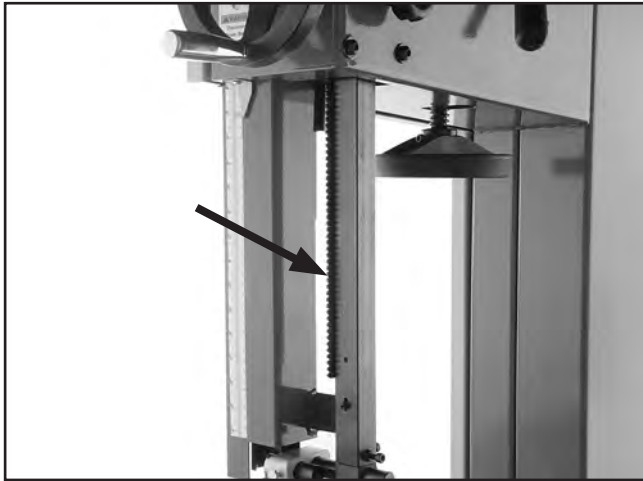

Figure 54. Rack lubrication location.
3. Wipe off existing grease and sawdust buildup on rack (see **Figure 54**).